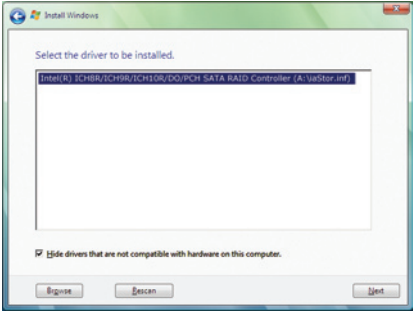

Figure 7
When a screen as shown in Figure 7 appears, select **Intel(R) ICH8R/ICH9R/ICH10R/DO/PCH SATA RAID Controller (A:\IaStor.inf)** and click **Next**.